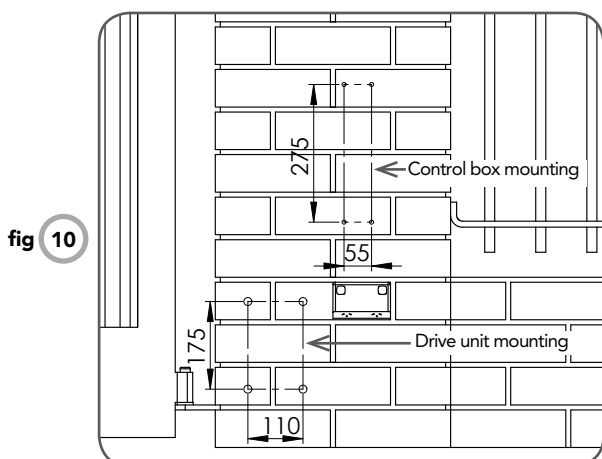

fig 10
1. The control box should be mounted near the drive unit using four (4) 6mm screws.
2. Drill holes as per (**Fig. 10**). When locating the control box, allow ample space around the unit for easy access and wiring connections.